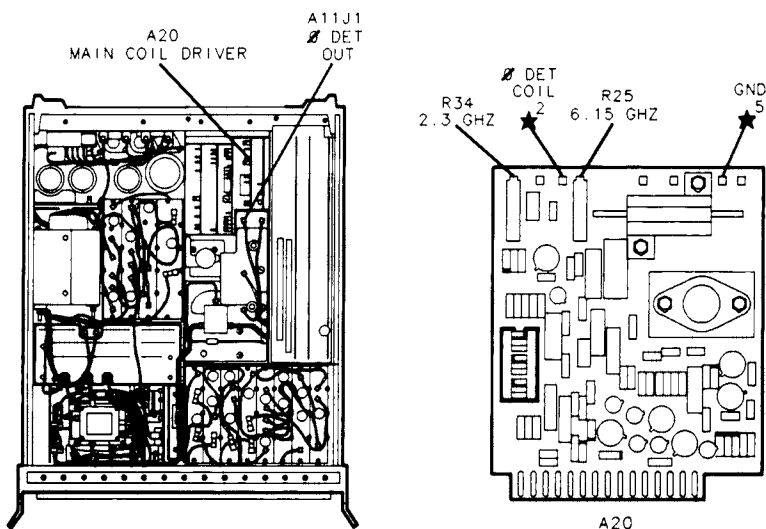

Figure 3-62. Location of YTO Main Coil Driver Adjustments
24. Adjust A20R34 2.3 GHz adjustment for frequency counter indication of 2300.0 ± 0.1 MHz, allowing time for frequency counter display to settle. Refer to Figure 3-62 for location of adjustments.